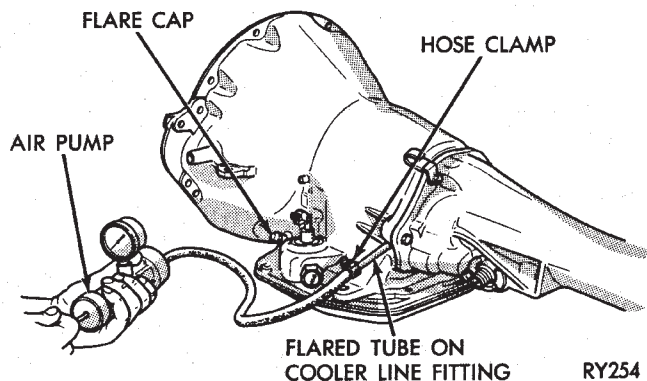

Fig. 14 Typical Method Of Pressurizing Transmission
(2) Close off remaining transmission openings with rubber plugs, or stoppers or similar devices. **Do not close off rear cooler line fitting. Hand operated air pump will be attached to this fitting.**
(3) Attach Air Pump 7700 to rear cooler line fitting. Connect a length of copper tube to fitting. Then attach pump hose to tube with hose clamp (Fig. 14).
(4) Apply a thick soapy water solution to suspected leak areas.